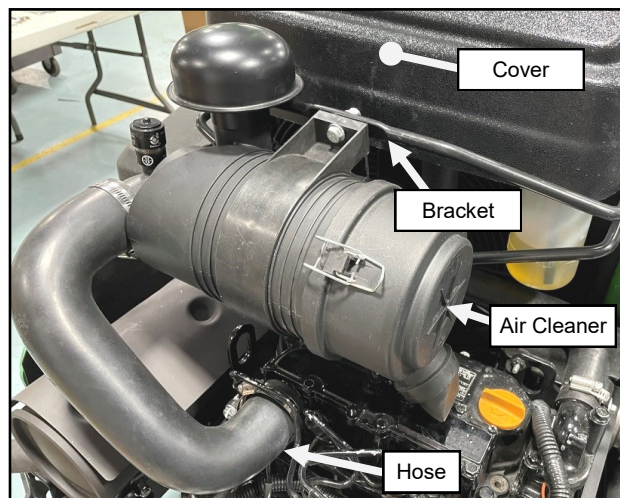

Fig. 1.8 (Remove Hose and Air Cleaner)
- 1.8** Loosen the (2) hose clamps found on the hose connecting the engine to the air cleaner. Next, remove the air cleaner and (2) mounting screws/nuts from the mounting bracket. Set aside hose, air cleaner and hardware for later re-installation. See Figure 1.8.